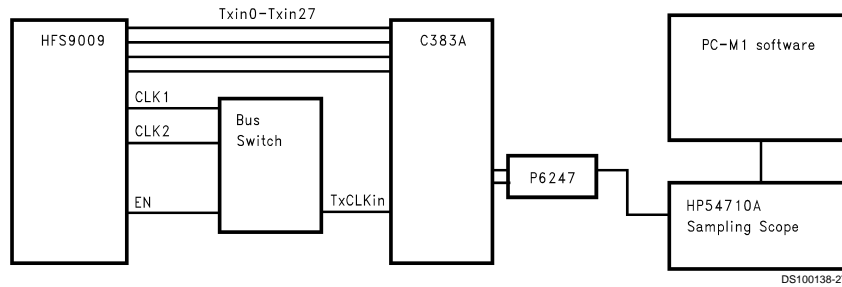

FIGURE 12. TJCC Test Setup
**Note 6:** The Limits are based on statistical analysis of the device performance over process, voltage, and temperature ranges. Output jitter is measured with a cycle-to-cycle jitter of 3ns applied to the input clock signal. A jitter event of 3ns, represents worse case jump in the clock edge from most Graphics controller VGA chips currently available. This parameter is used when calculating system margin (RSKM). See Figures 12, 13 and AN-1059.
Figures 12 and 13 illustrate the timing of the input clock relative to the input data. The input clock (TxCLKin) is intentionally shifted to the left -3ns and +3ns to the right when data (Txin0-27) is high. This 3ns of cycle-to-cycle clock jitter is re-